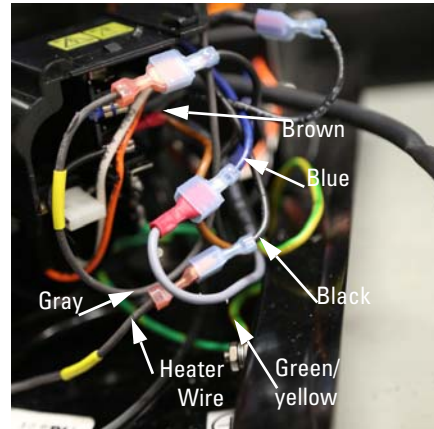

Figure 9: Electrical connections on 230V compressor
- 11. Disconnect the four (4) compressor wires from the power supply cable (Figure 9).
2. Reconnect the four (4) compressor wires to the power supply cable (Figure 9):